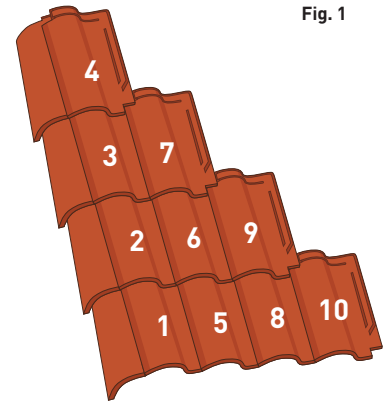

Fig. 1
3. See (fig.1) for sequence of installation for fist and succeeding courses of tiles from the eave to the ridge.